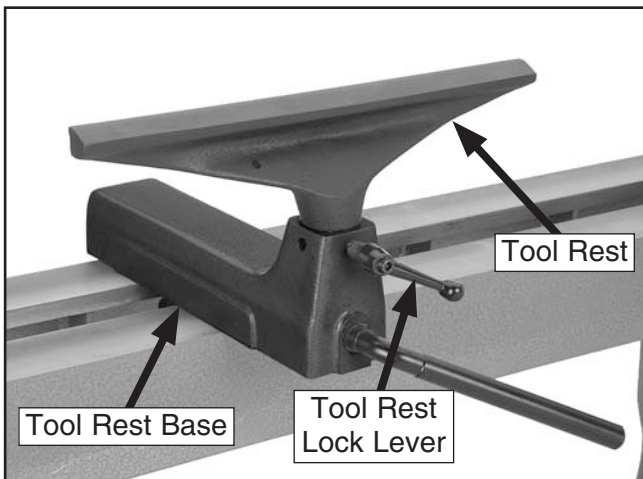

Figure 13. Tool rest installed on the tool rest base.
- Insert the tool rest into the tool rest base and tighten the tool rest lock lever (see **Figure 13**).